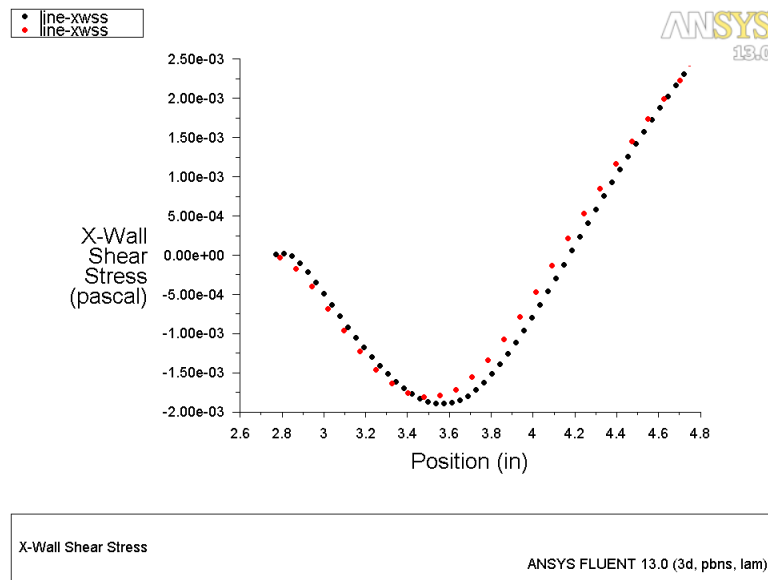

Figure 17: Comparison of X-Wall Shear Stress Profiles After First Mesh Adaption
- (g) Click Plot (Figure 17).
Figure 17 indicates that the wall shear stress distribution is essentially mesh independent. However, based on the comparison of temperature profiles you need to perform another mesh adaption.